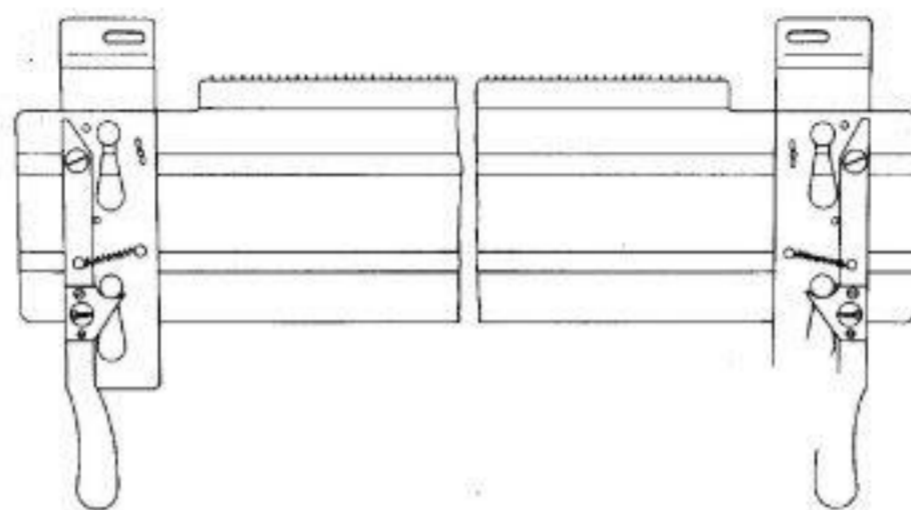

Fig. 9
**Note:** It is essential that the brackets are fitted as shown in Fig. 9 ensuring that the R/H and L/H brackets are at the correct ends of the ribber needle bed.